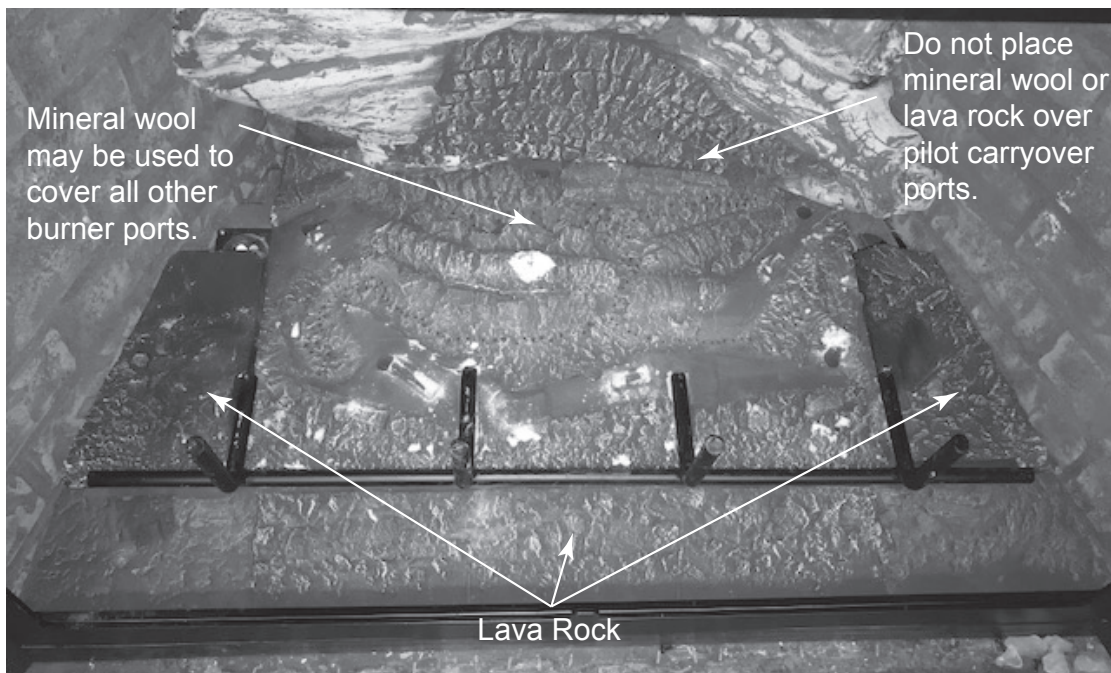

Figure 11.17 Placement of Mineral Wool, Lava Rock
- Place a small amount of 1/2 in. diameter pieces (dime-size) mineral wool on the burner pan as shown in Figure 11.17. The mineral wool may be placed loosely over the port holes in the burner pan. Do NOT press them onto or into the burner port holes. This will provide the “glowing embers” look.
Place lava rock on lower hearth panels, NOT burner, using just enough to accent formed embers and/or cover panel seams. See Figure 11.17. It is not necessary to use the entire bag. Save the remaining amount for future use.